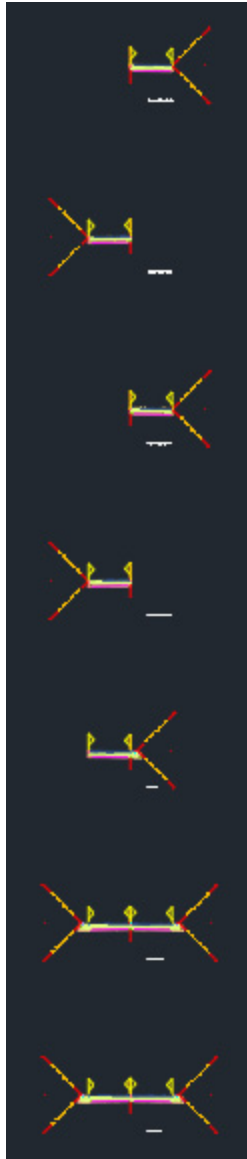

Figure 10.35 – Assemblies created during the intersection design process
- The third item that has changed in our **Grading Model.dwg** file is that we now have a series of additional subassemblies that have been created and are available to us. If you recall back to the **Create Intersection** process, in the **Corridor Regions** tab, we accepted the defaults while listing out multiple assemblies to apply, at which point Civil 3D automatically generated and placed these assemblies into our model space (refer to *Figure 10.35*):